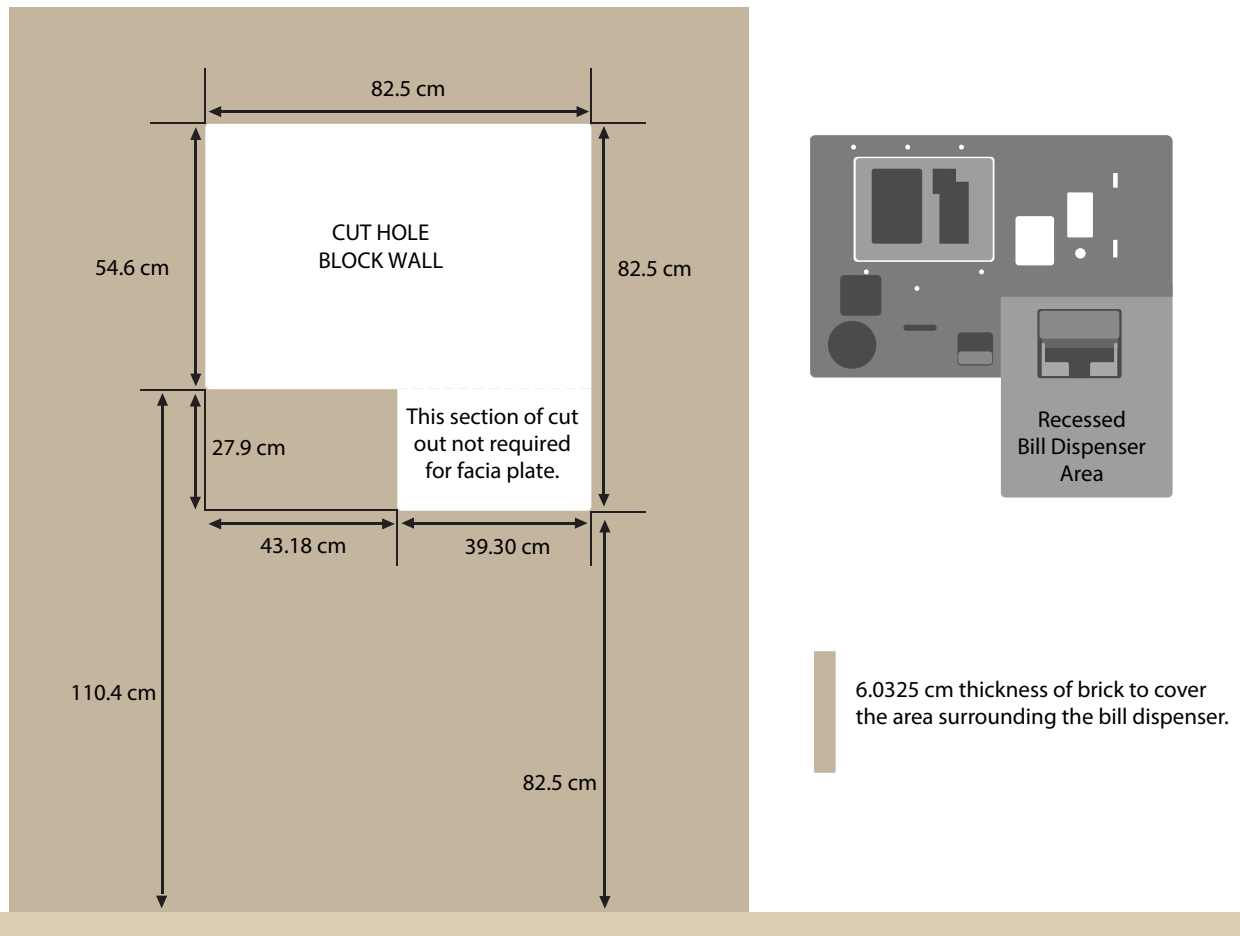

Figure 3. Rough Opening Measurements in block wall for Auto Sentry® CPT
The Auto Sentry® CPT was designed to be installed securely in an existing block wall, where the outside wall is where customers use the Auto Sentry® CPT, and the inside of the wall, you can access the Auto Sentry® CPT from a room with a locked door. The hole needs to be cut using the measurements in Figure 3. These measurements will assure you that the plastic cover will mask the gap from the rough opening in the block wall.
If you are installing the Auto Sentry® CPT in a thinner wall, such as aluminum, it may not be required for you to cut out the bill dispenser area in the wall as shown in Figure 3.
- 1 Cut the hole in the block wall according to the rough opening measurements in Figure 3.
See Figure 3, "System Wiring," on page 21.